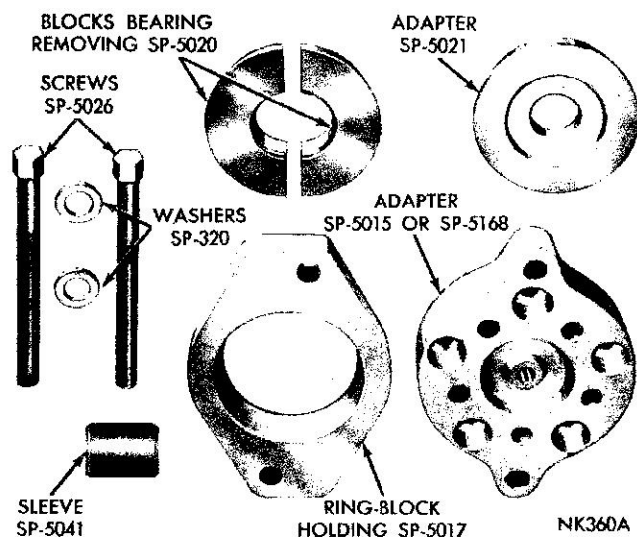

Fig. 3—Tool Set C-3971
(3) Remove parking brake strut.
(4) Attach axle shaft remover Tool C-3971 (Fig. 3) to axle shaft flange and remove axle shaft. Remove brake assembly and gaskets.